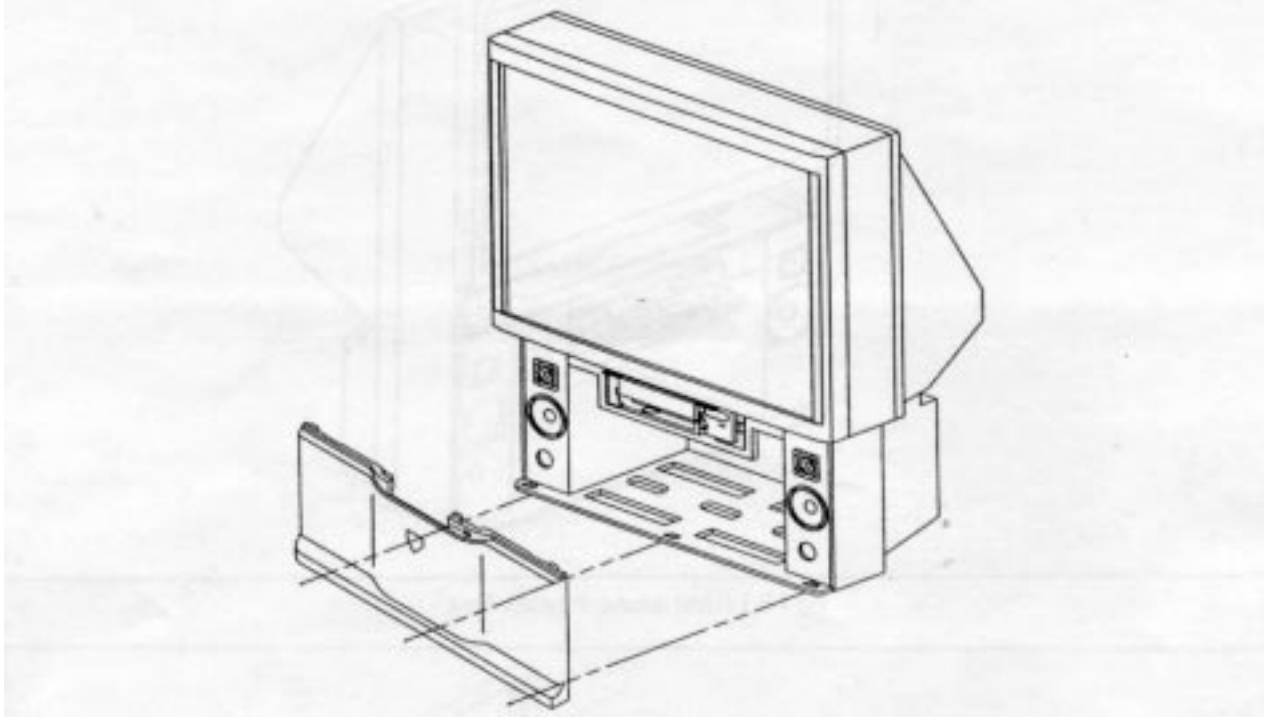

Fig. 4-7 Pull and remove the 2 woofers from the cover grill.
1. Figures 4-7 through 4-10 show the disassembly steps.